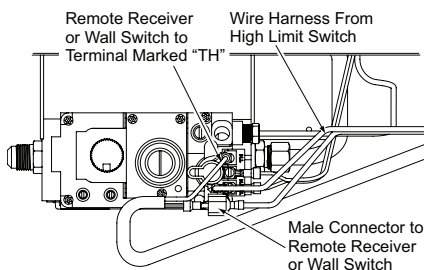

Figure 14 - Connecting Remote Receiver or Wall Switch to the Gas Control Valve
1. Connect one terminal of 15 foot wire from wall switch to male connector on high limit harness. Connect remaining wire terminal to TH terminal on valve. Make sure that wire terminals are in positions on unit as pictured in Figure 14. If wires are not connected as shown switch will not work.
4. Connect one wire from receiver to male connector on high limit harness and one to "TH" on control valve (see Figure 14, page 12).